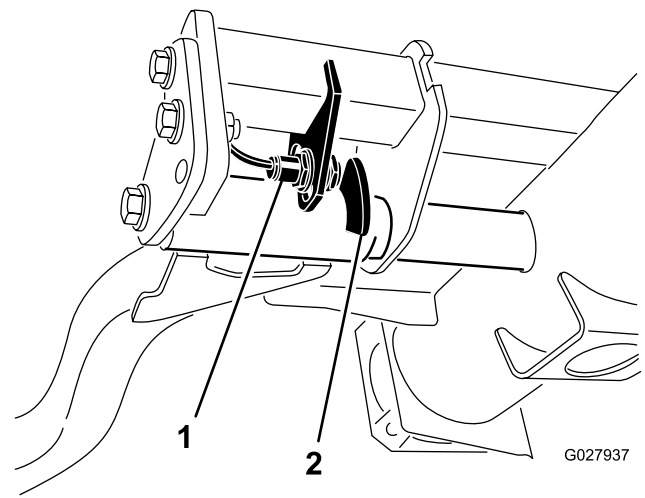

Figure 39
2. The lift-arm switch is located underneath the hydraulic tank behind the front, right lift arm (Figure 39).